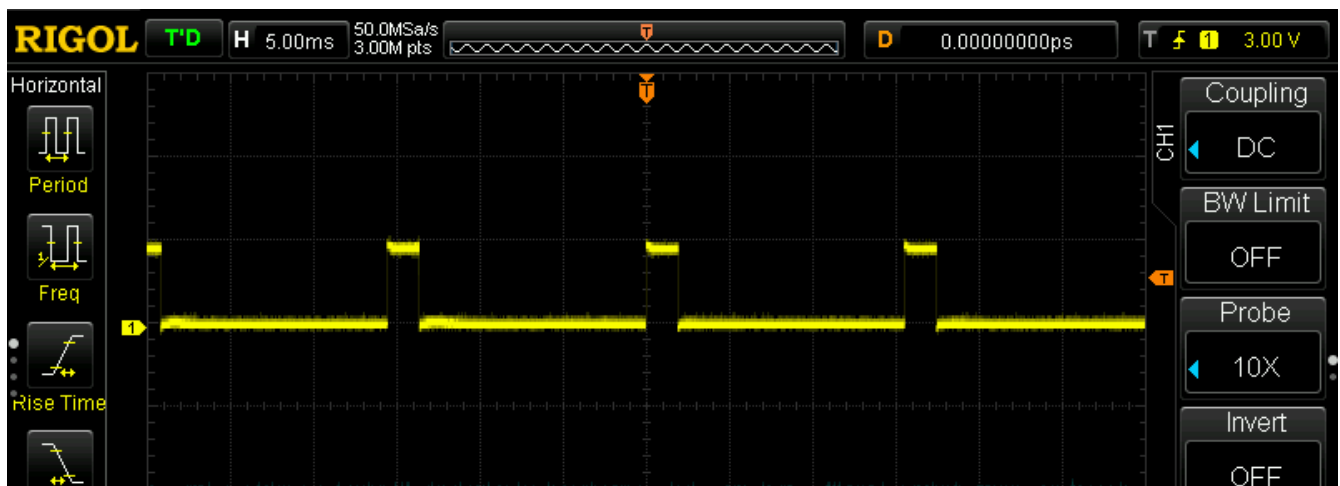

Figure 4 Night Mode
- Figure 4 Night Mode4
The Night Mode is a stable PWM signal with the Duty Cycle of ~12.5 % and 64 Hz frequency (Figure 4).